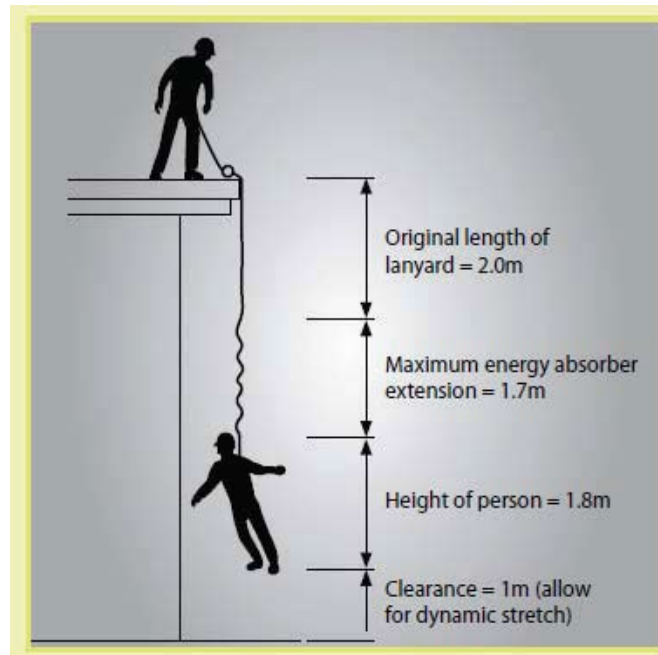

Figure 3 – Individual fall arrest system showing the clearance required to absorb energy and prevent the user from striking the ground.
- Assess the amount of slack in fall arrest line, allowing for energy absorption, height of worker etc as illustrated in Figure 3 above